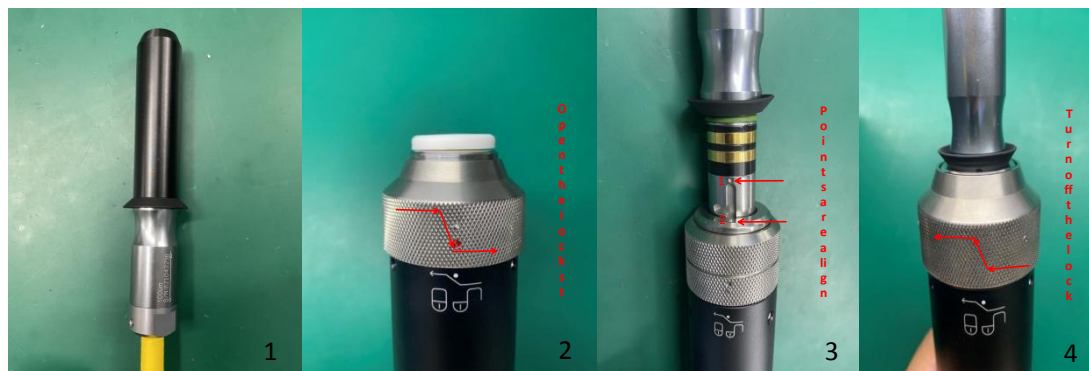

Figure 4-2 Operation diagram of QBH terminals
Insert QBH horizontally into the locking structure of the connector, tighten and secure before erect the fixed connector.(1) Remove the plastic protective cover of the QBH output head and the external connector.(See Fig. 4-2, Q B H Operation Figure 1 and 2)